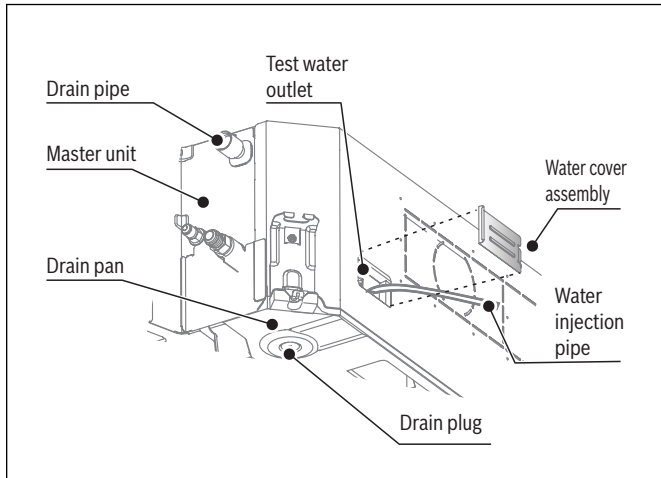

Figure 20
- Put approximately 1/4gal. of water into the drain pan through the fresh air intake. Make sure not to pour water over the drain pump or any electric parts including the drain pump. Remove the water cover and place a tube to add water through the uncovered hole (See Figure 20).